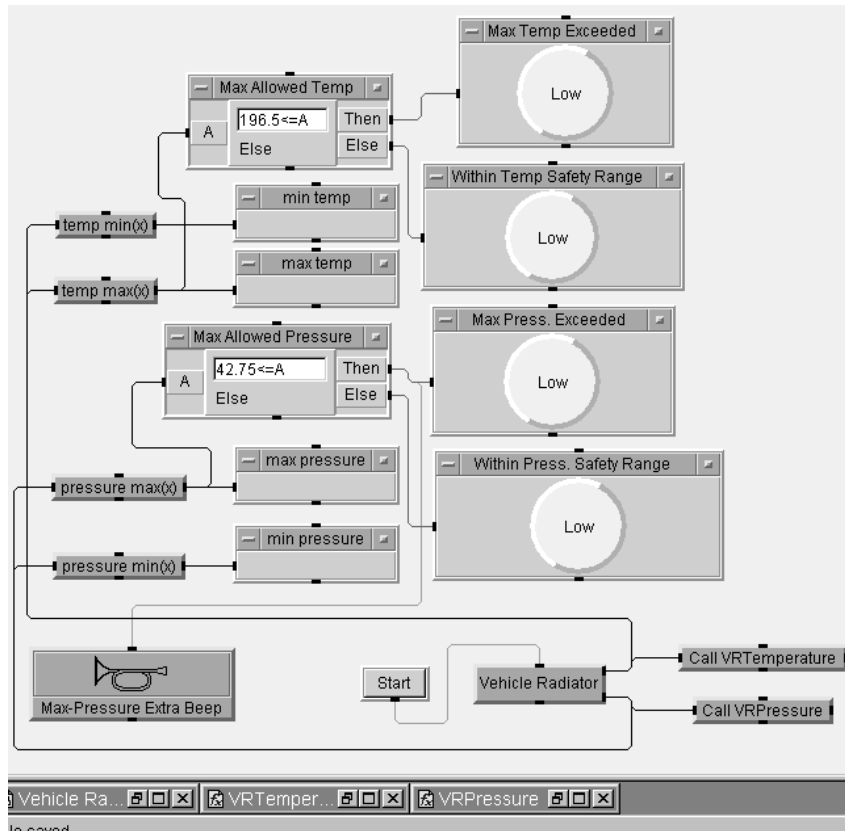

Figure 14.17. Lab 14-4 partial layout and connections
33. Verify your object locations, titles, and connections via Figure 14.17.